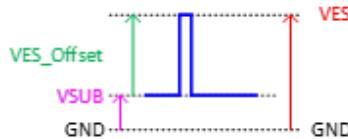

Figure 18. VSUB and VES Reference
38. Figure 18 shows the DC bias (VSUB) and AC clock (VES) applied to the SUB pin. Both the DC bias and AC clock are referenced to ground. The VES_Offset is referenced to VSUB.